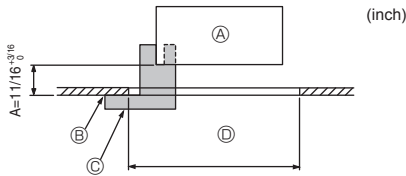
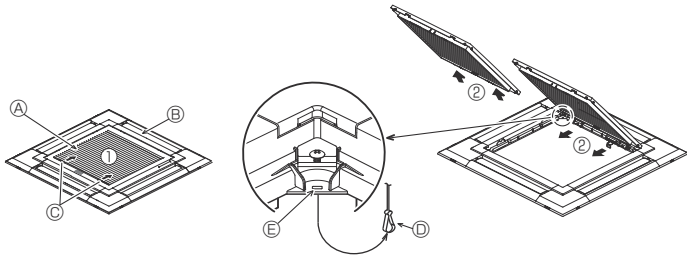
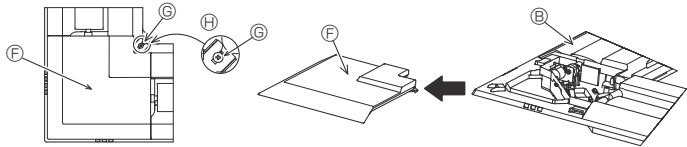

Fig. 6-2
Fig. 6-3
Fig. 6-4
①	Grille	1	950 × 950 (mm), 37-13/32 × 37-13/32 (inch)
②	Gauge	1	Divided into 4 parts
③	Screw (4 × 16)	1	For TPLFYP-EM
④	3D i-see Sensor corner panel	1	For TPLFYP-EM
6.2. Preparing to attach the grille (Fig. 6-2)
- With the gauge ② supplied with this kit, adjust and check the positioning of the unit relative to the ceiling. If the unit is not properly positioned relative to the ceiling, it may allow air leaks or cause condensation to collect.
- ① Main unit
- ② Ceiling
- ③ Gauge ② (inserted into the unit)
- ④ Ceiling opening dimensions
6.2.1. Removing the intake grille (Fig. 6-3)
- Slide the levers in the direction indicated by the arrow ① to open the intake grille.
- With the intake grille in the "open" position, remove the hinge of the intake grille from the grille as indicated by the arrow ②.
6.2.2. Removing the corner panel (Fig. 6-4)
- Loosen the screw from the corner of the corner panel. Slide the corner panel as indicated by the arrow ① to remove the corner panel.
[Fig. 6-3] [Fig. 6-4]